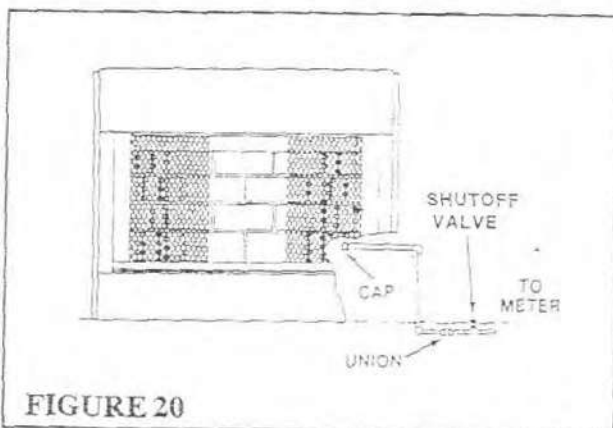

FIGURE 20
**IMPORTANT:** Install the gas line before finishing the fireplace. If desired, a decorative gas appliance may be installed. Use only iron pipe, 1/2" size, and appropriate fittings. When installing gas line, a valve designed for installation outside the fireplace is required (Figure 20).